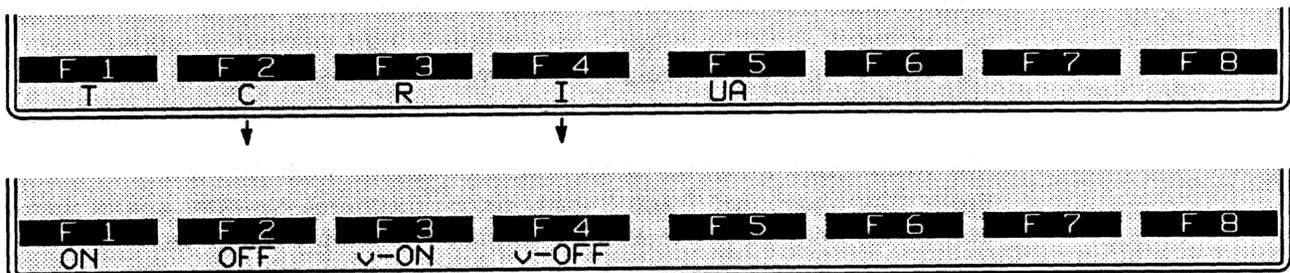

Figure 32-5 C and I leads may be tested for true status or for valid status.
X.21 conditions can monitor the status of C and I control leads. The C and I softkeys are in the conditions rack below LEADS. See Figure 32-5.